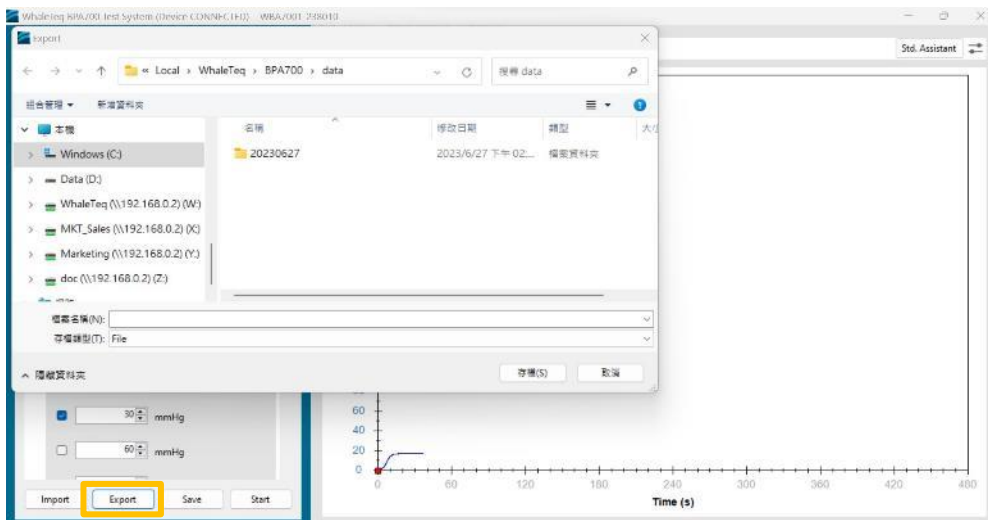

Figure 18: Export Auto Sequence List
(4) Click “Export” to export auto sequence list as a file, so you can import next time. (As Figure 18 shown.)